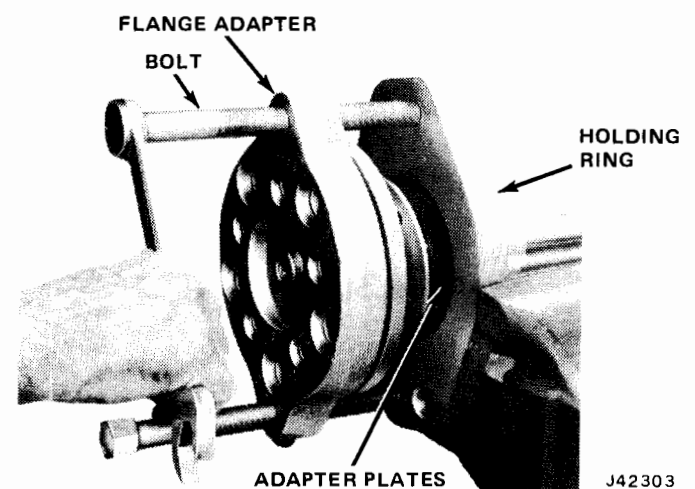

Fig. 10-25 Removing Axle Shaft Bearing
(11) Attach Axle Shaft Adapter Tool J-25156 to axle shaft using flange stud nuts. Position flange adapter bolts against dimples of holding ring and alternately tighten them until bearing is pressed from shaft (fig. 10-25).